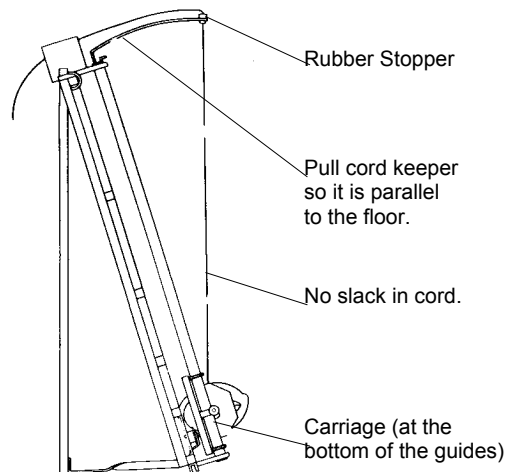

Figure 11: Installing the Cord Keeper
2. Remove the rubber stopper from the ring in the cord keeper. See Figure 11. Uncoil the cord from the motor, and place the plug end through the ring as shown.